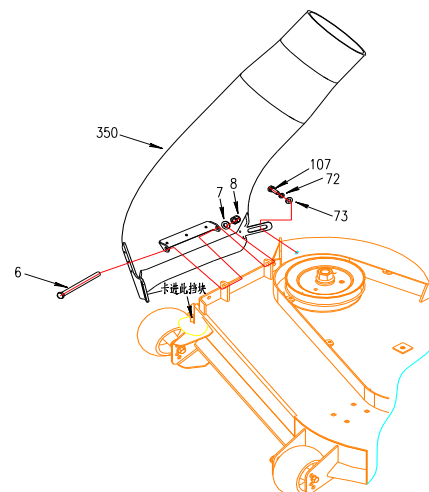

FIG 2
b) Install the deck discharge tube. Place slot on outside edge of Part No. 350 (deck discharge tube) over welded tab on outside edge of mower deck. Line up top bracket holes of deck discharge tube with holes in tabs welded to top of deck discharge. Insert bolt, add washer and nut and tighten securely. Insert M8x16 bolt into inside side bracket of tube assembly and hole provided in deck, add washer and nut and tighten securely. (FIG2)